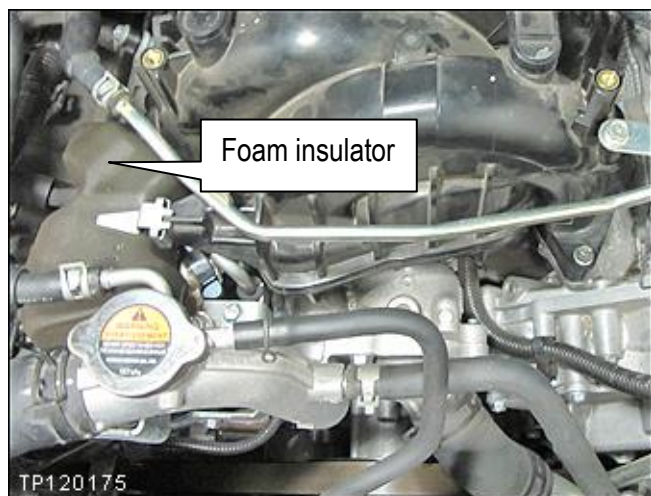

Figure 12m
16. By hand, remove the fuel pump foam insulator shown in Figure 12m.